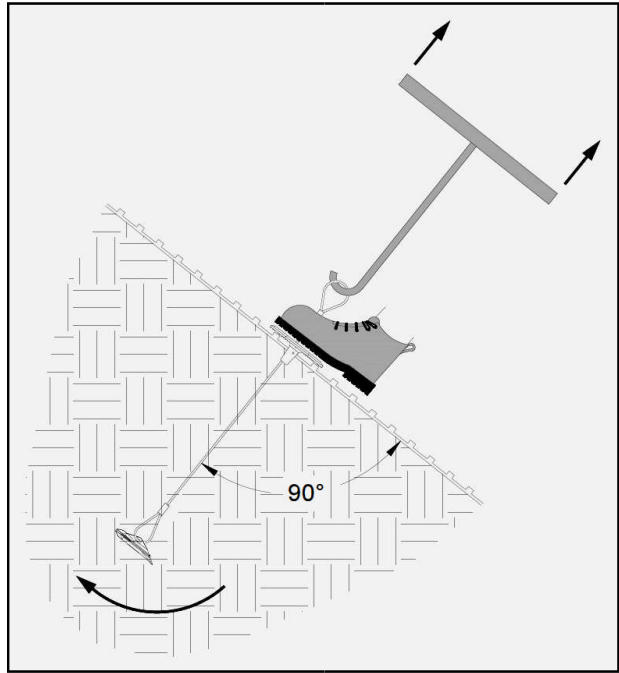

Figure 10: Use Setting Tool to Set Anchor
5. Once the plate is close to the channel surface, stand on the anchor plate and insert the setting tool into the loop at the top of the anchor tendon, keeping the anchor tendon perpendicular to the channel surface. (Figure 10) With gentle force, slowly start to pull upwards - away from the channel surface - causing the anchor tendon to start to move out of the ground (displace). During this step, the anchor head will turn in the ground - a process known as "anchor setting". The change in embedment depth to set a Type B1 Anchor is approximately 2 inches. When the anchor is set, there will be a noticeable change in the amount of force needed to displace the anchor any further. This is a good indication that the anchor head is now perpendicular to the anchor tendon and the anchor is ready to be load-locked.